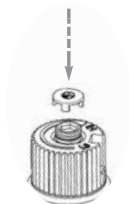

Fig.6
20) Re-assemble the black protection cap (Fig. 6).